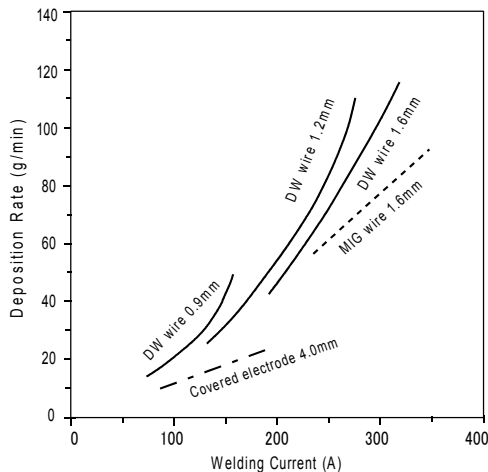

Fig. 1 Deposition rate as a function of welding current
- (1) DW stainless flux-cored wires are cost-effective wires because of high welding efficiency with the deposition rate 2-4 times as high as those of stick electrodes as shown in Fig. 1 and deposition efficiency of about 90%.